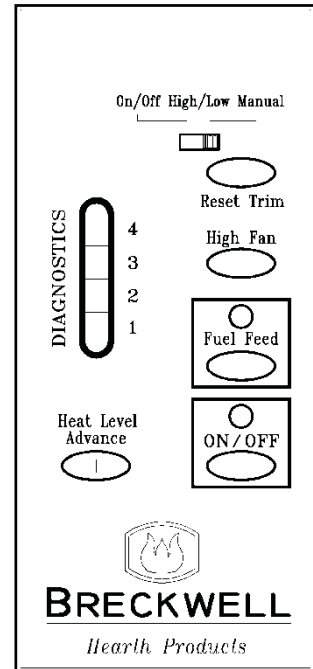

FIGURE 12
PANEL CONTROLS (See Figure 12)
- The green light located above the On/Off button (in the On/Off box) will flash during the ignition start-up period. (See figure 12)
- While the stove’s auger system is feeding pellets the amber light (in the “Fuel Feed” box) will be on. (See figure 12)